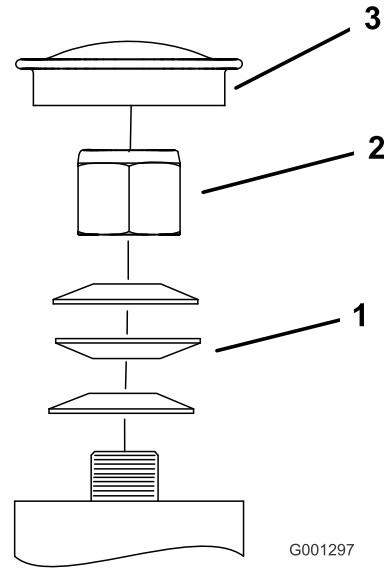

Figure 71
3. Remove the dust cap from caster and tighten the locknut (Figure 71).
4. Tighten the locknut until the spring washers are flat, and then back off 1/4 turn to properly set the preload on the bearings (Figure 71).
Important: Make sure that the spring washers are installed correctly as shown in Figure 71.
5. Install the dust cap (Figure 71).